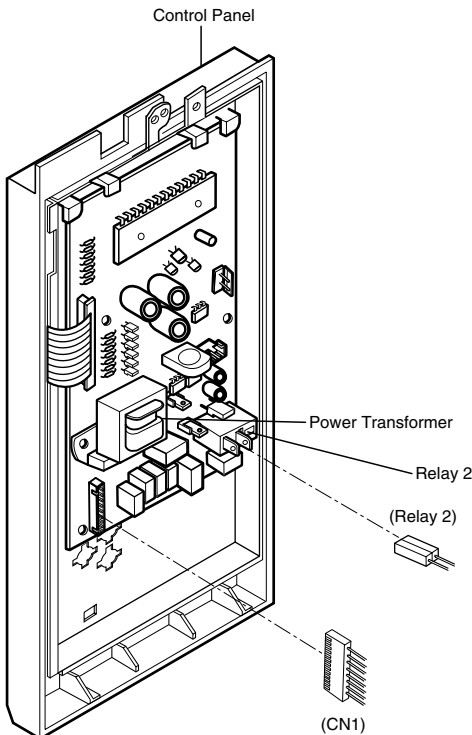

Figure 1
A. REMOVING POWER AND CONTROL CIRCUIT BOARD (Figures 1, 2 and 3)
- (1) Remove a screw securing the control panel assembly to the oven cavity.
- (2) Remove the control panel with pushing it upward.
- (3) Remove the connectors (CN1) and wire leads (Relay2) from the circuit board.